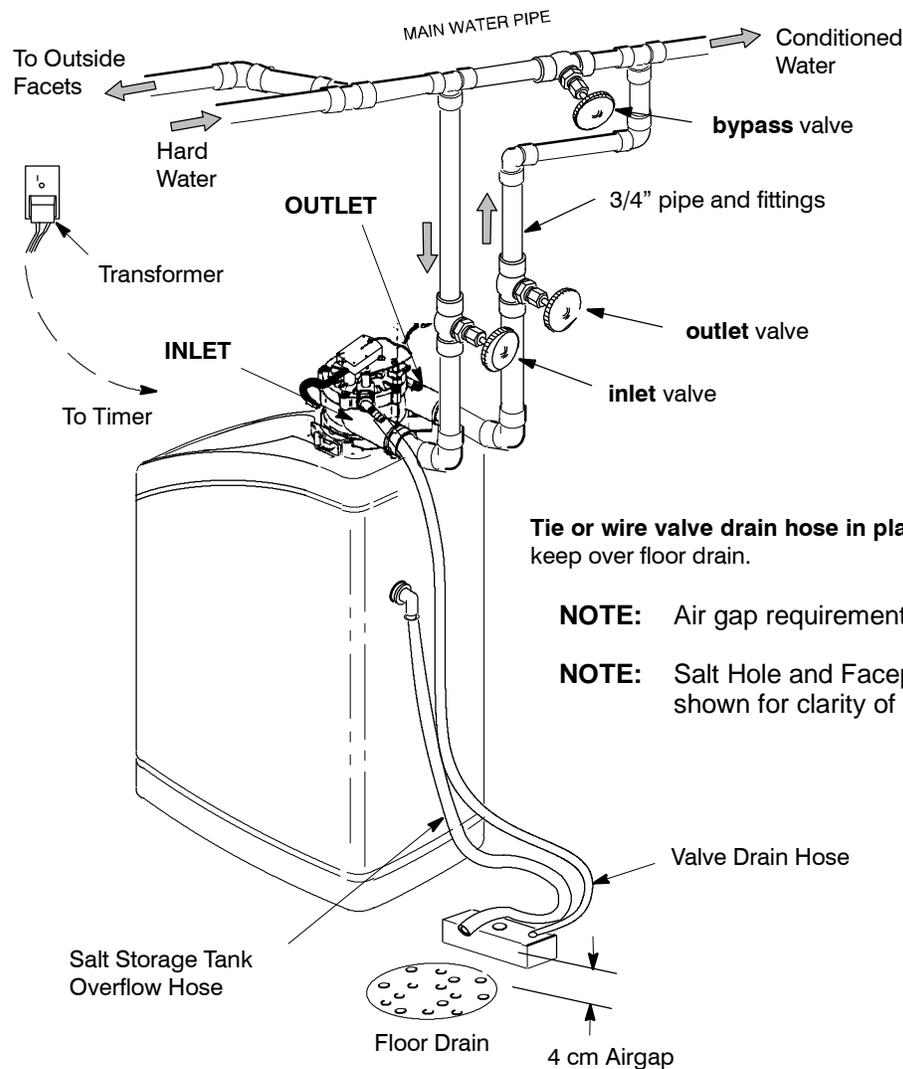

Figure 2
WARNING: The house cold water pipe (metal only) is often used as a ground for the house electrical system. The 3-valve bypass type of installation, shown in Figure 2, will maintain ground continuity. If you use a plastic bypass valve at the unit, continuity is broken. To restore the ground, do the following.
2. Run the hose to the floor drain, and as typically shown in Figure 2, tie or wire the end to a brick or other heavy object. This will prevent "whipping" during regenerations. **Be sure to provide a 4 cm minimum air gap, to prevent possible sewer water backup.**
1. Connect a length of 3/8" I. D. hose to the salt storage tank overflow elbow and secure in place with a hose clamp (see Figure 2).